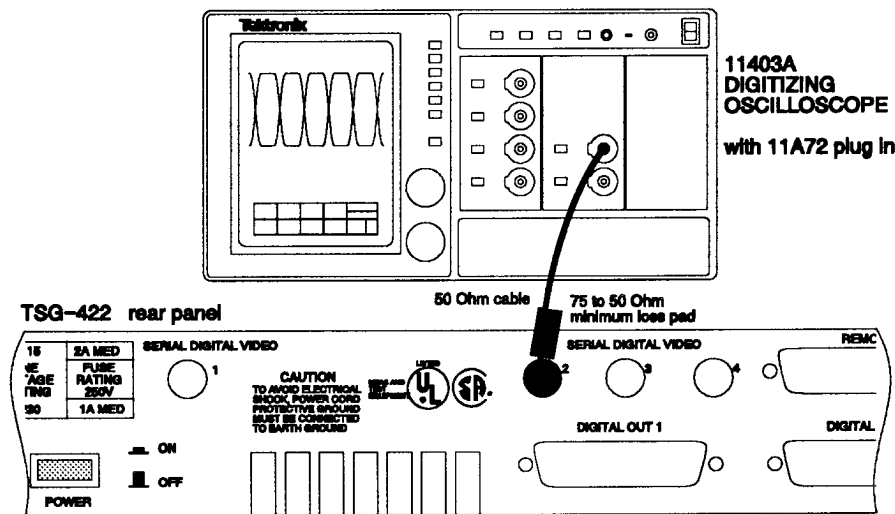

Fig. A-8. Setup to check the Serial Digital Output: Amplitude, Rise & Fall Times, Overshoot & Undershoot, and DC Level.
- In the **WAVEFORM HORIZONTAL DESC** menu, set the **Display Type** to: **VARIABLE PERSISTENT**. This adjustment should result in the outline of the eye pattern displayed on the screen. The eye pattern should be similar to Fig. A-8.